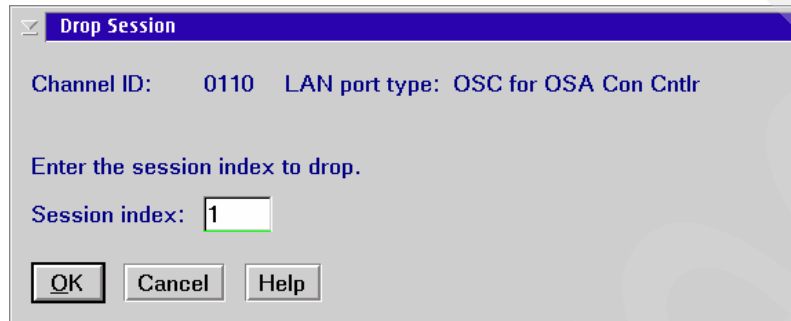

Figure 4-12 Drop Session
1. Starting at the Debug Utilities panel, click **Drop session**, and click **OK**. The Drop Session panel is displayed (see Figure 4-12).